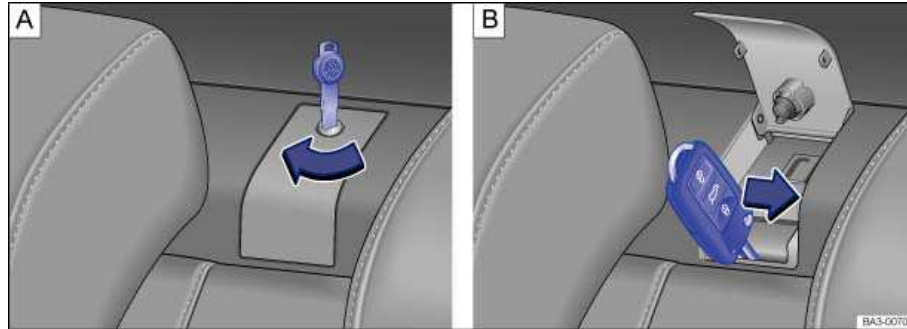

Fig. 199 Behind the rear seat backrest on the driver side: releasing the rear seat backrest.
- If the cover plate is locked, insert the Valet Parking key ⇒ *Vehicle key set* into the lock behind the rear seat backrest ⇒ fig. 199 A and turn in the direction of the arrow to unlock the cover plate.
- To release the rear seat backrest, insert the vehicle key into the slot underneath the cover plate ⇒ fig. 199 B and push in the direction of the arrow. If the anti-theft is activated, the alarm will sound.